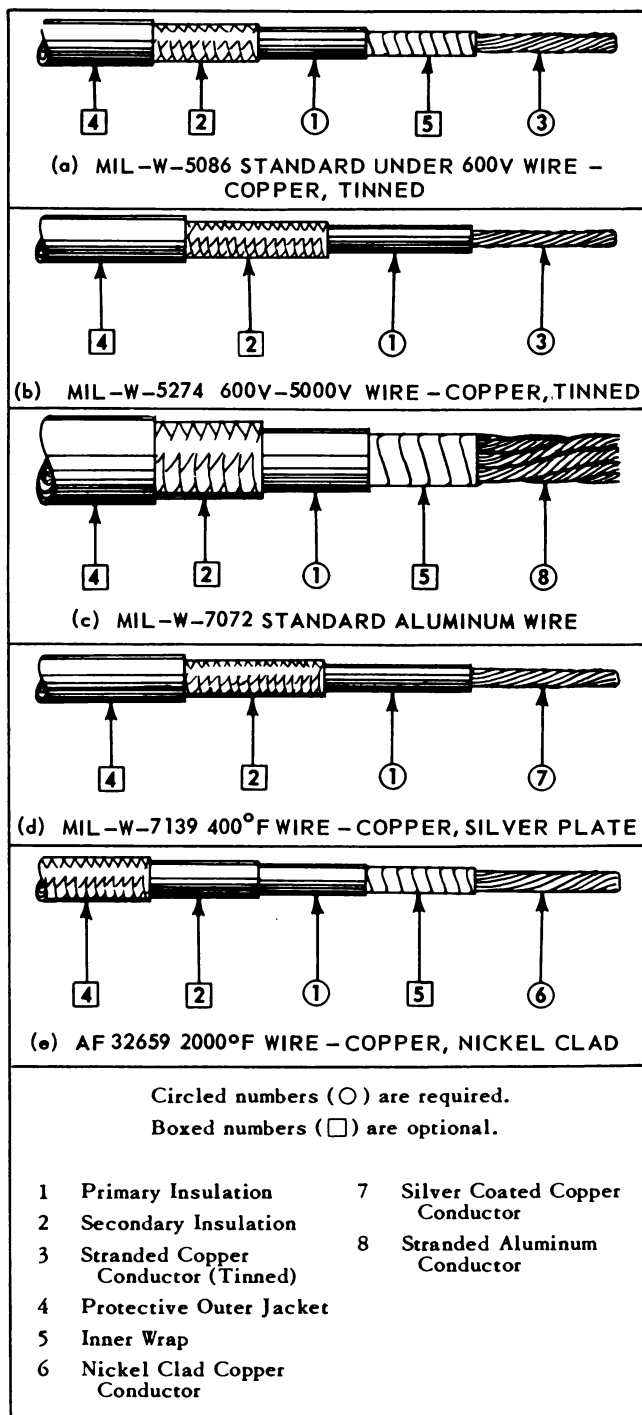

Figure 2-1. Wires Commonly Used in Aircraft
a. Wire. For purposes of electric or electronic installations a wire is described as a stranded conductor, covered with an insulating material. See Figure 2-1 for illustrations of wires commonly used in aircraft.